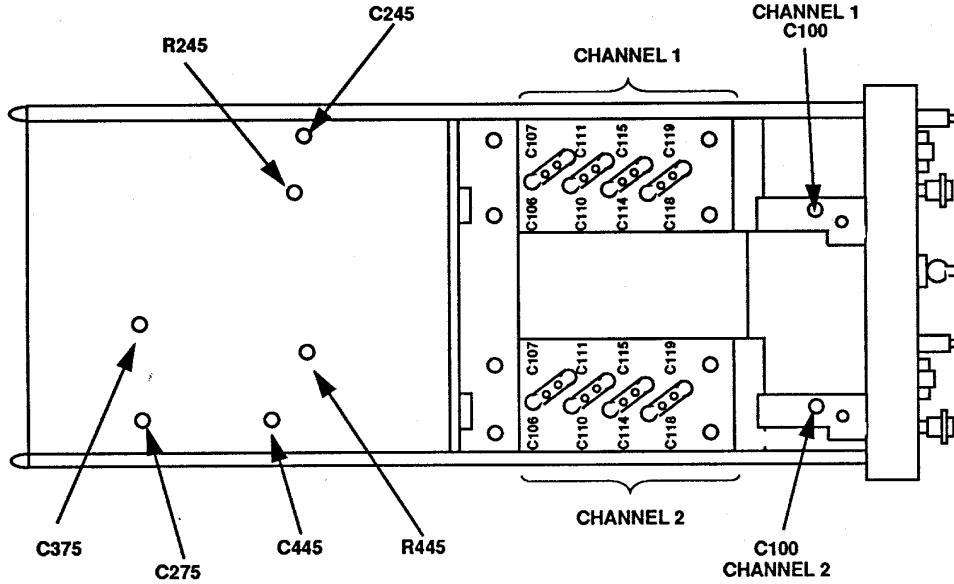
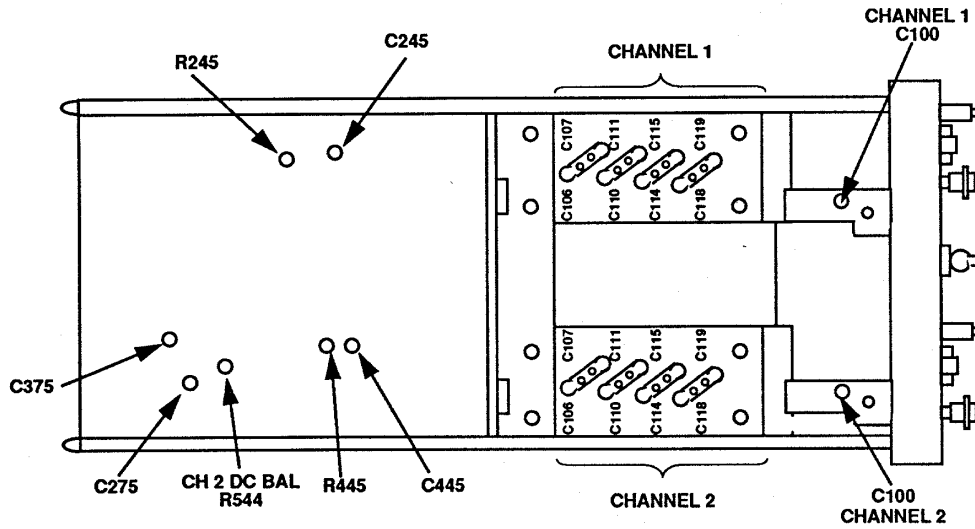

Figure 1. AM688/U (Tektronix, Type 7A18) - left side view.
Figure 2. Tektronix, Type 7A18A and 7A18A w/option 06 - left side view.
(22) Adjust standardizer for optimum square wave. If optimum square wave cannot be obtained, adjust **CHANNEL 1 C100 (CH 2 adjust C100 CHANNEL 2)** (fig. 1 or 2) to midrange and readjust standardizer for optimum square wave.
Use figure 1 for AM-6880/U (Tektronix, Type 7A18), and figure 2 for Tektronix, Type 7A18A and 7A18A w/option 06.
| VOLTS/DIV switch settings | CH 1 and CH 2 adjustments (fig. 1 or 2) ¹ | |
(2) Connect oscilloscope calibrator **CHAN 1** to TI **CH 1** using a 50 Ω feedthrough termination. Set oscilloscope output to **CHAN 1** using technique in (11) above.
(3) Set **DISPLAY MODE** switch to **CH 1** and **CH 1 VOLTS/DIV** switch to **10 mV**.
(4) Set oscilloscope calibrator to **EDGE**, and output to 60 mV at 1 kHz.
(5) Adjust **CH 1 POSITION**, oscilloscope, and time base controls as necessary to view waveform.
(6) Rotate oscilloscope calibrator knob located below **EDIT FIELD** pushbutton to obtain 6 divisions on oscilloscope display. If aberrations are not less than 0.24 divisions peak-to-peak, adjust **R245**, **C245**, and **C275** (**CH 2** adjust **R445**, **C445**, and **C375**) (fig. 1 or 2) for optimum square wave with aberrations of less than 0.24 divisions peak-to-peak (R).
(7) Repeat technique of (2) through (6) above for **CH 2**.